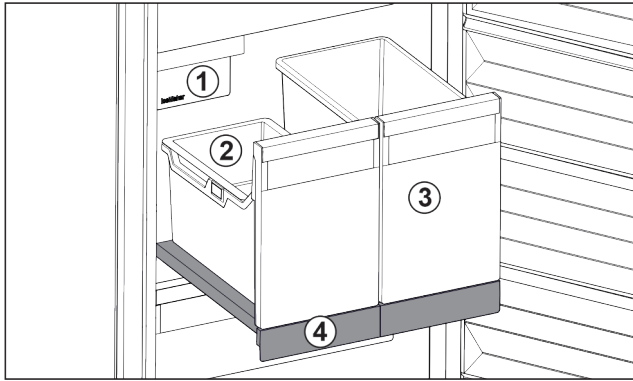

Fig. 95 Pull-out board with IceTower
- (1) IceMaker
- (2) Hang-on tray for ice cubes
- (3) Container for pizza or alcoholic beverages, for example
- (4) Pull-out board
On the pull-out board are two tall containers (IceTower). Ice cubes from the IceMaker are collected and stored in the container Fig. 95 (2). The container Fig. 95 (3) is suitable for storing tall foodstuffs or beverages such as pizzas or alcoholic drinks.